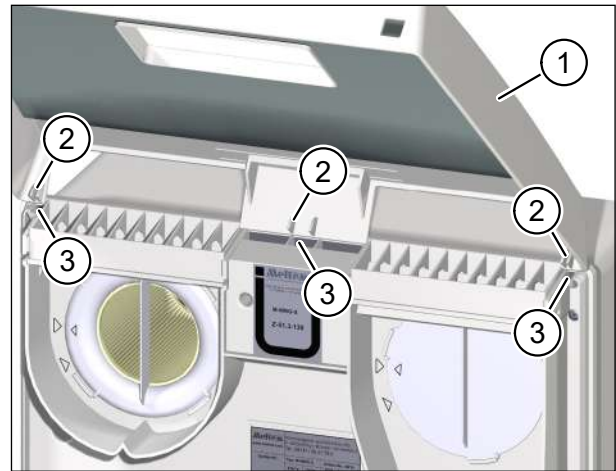

Fig. 16: Attaching the unit cover to the ventilation unit
- ▶ Hold the cover (item 1 in Fig. 16) of the ventilation unit with both hands and tilt the top edge of the cover towards the ventilation unit.
- ▶ Insert the tabs (item 2 in Fig. 16) of the unit cover into the openings (item 3 in Fig. 16) on the top of the ventilation unit.